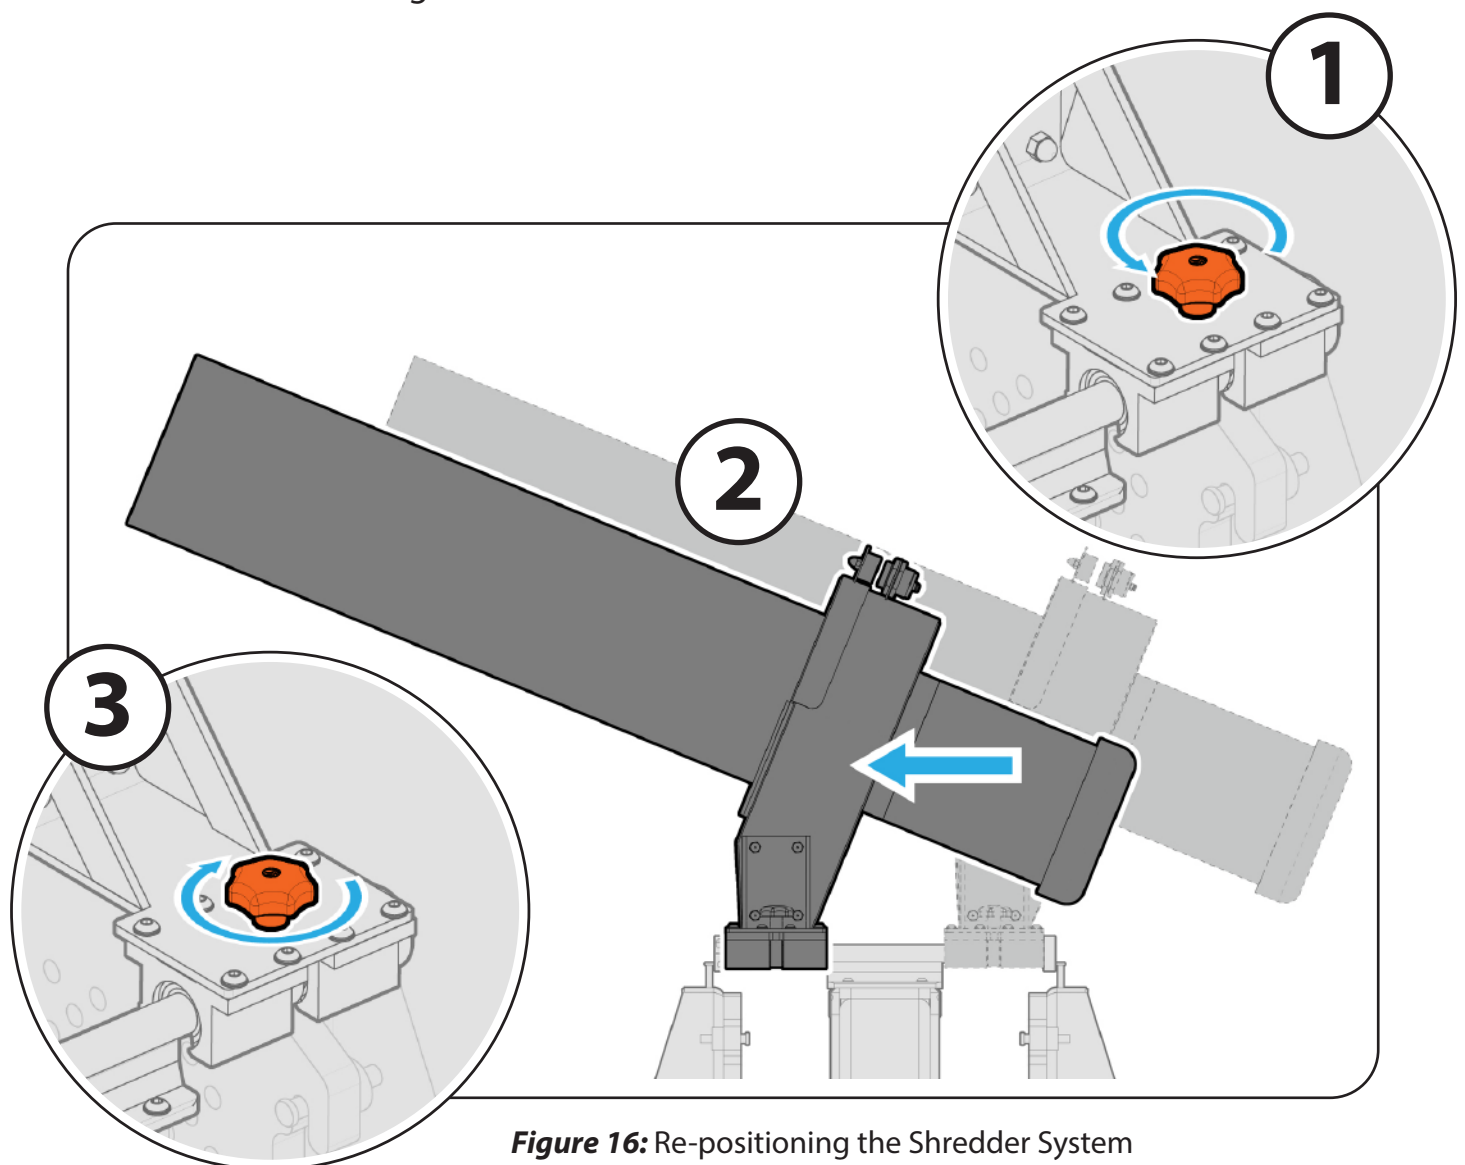

Figure 16: Re-positioning the Shredder System
11. Turn the Shredder Lock Knobs (there are two) counter-clockwise to loosen the slide locks (DO NOT REMOVE). See **Figure 16**, Step 1.
12. Slide the Shredder system to the opposite side. Make sure the Shredder System is up against the stops on the end of the sliding shaft. See **Figure 16**, Step 2.
13. Turn the Shredder Lock Knobs clockwise to tighten the slide locks. Verify that the Shredder System is secure and locked in the new position. See **Figure 16**, Step 3.